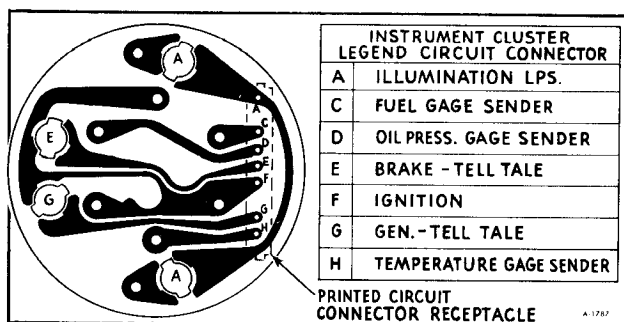

Figure 10-Gauge Cluster Printed Circuit
is made to this gauge by a (7) pin connector which feeds a printed circuit shown in Figure 10.
- a. If gauge does not register with ignition on: this may be caused by a break in the circuit between the gauge and the switch through the printed circuit or a short between the connector lead and the ground (See figure 10).
cles covered in this manual. A variable resistance sending unit is connected to an engine oil pressure gallery to vary the amount of resistance to ground with changes in engine oil pressure. Current is fed through the printed circuit on the back of the gauge (figure 10) from the wiring harness.